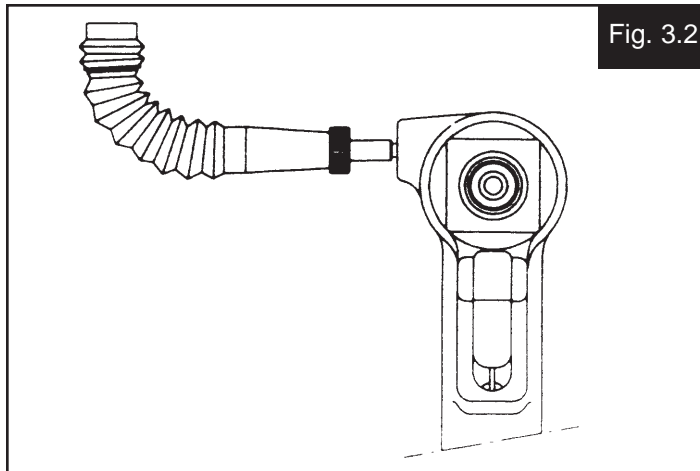

Fig. 3.2
- Stand tool upright on bench. While triggering tool slowly (20 - 30 cycles), bend fill bottle at right angles to tool - - see FIGURE 3.2. Air bubbles will emerge from tool. When bubbles stop, cycling may be discontinued.